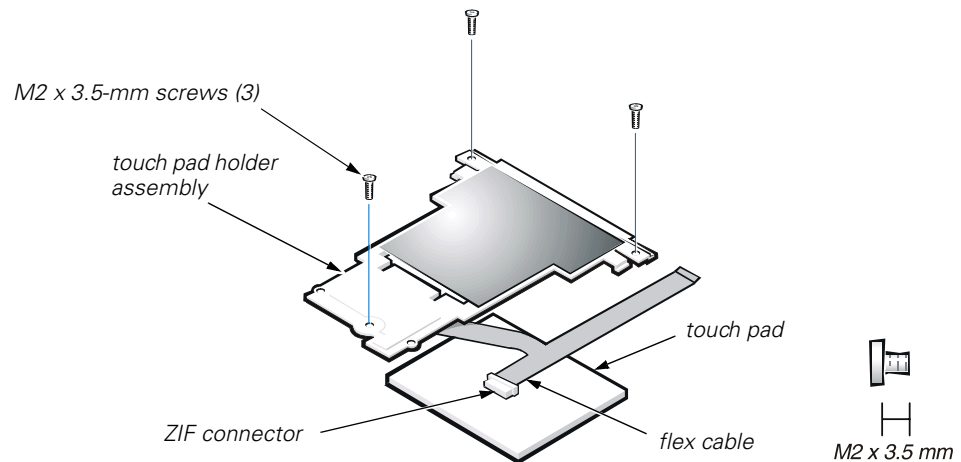

Figure 16. Touch Pad Removal
5. Remove the three M2 x 3.5-mm screws that secure the touch pad assembly to the palmrest assembly (see Figure 16).
8. Disconnect the flex cable from the ZIF connector on the back of the touch pad (see Figure 16).